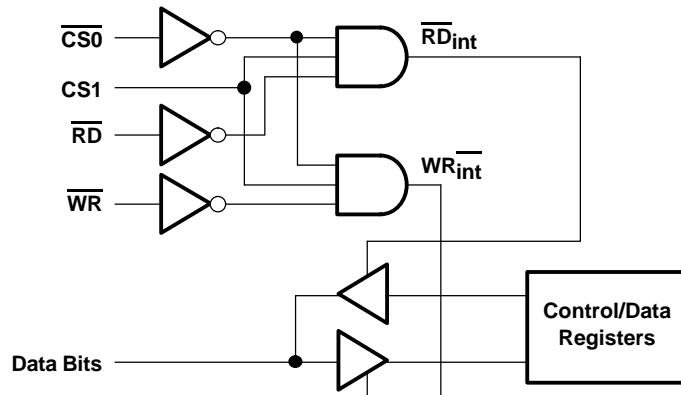

Figure 28. Logical Combination of $\overline{CS0}$, CS1, RD, and WR
Reading from the THS1009 takes place by an internal \overline{RD}_{int} signal, which is generated from the logical combination of the external signals $\overline{CS0}$, CS1 and RD (see Figure 28). This signal is then used to strobe out the words and to enable the output buffers. The last external signal (either $\overline{CS0}$, CS1 or RD) to become valid makes \overline{RD}_{int} active while the write input (WR) is inactive. The first of those external signals switching to its inactive state deactivates \overline{RD}_{int} again.